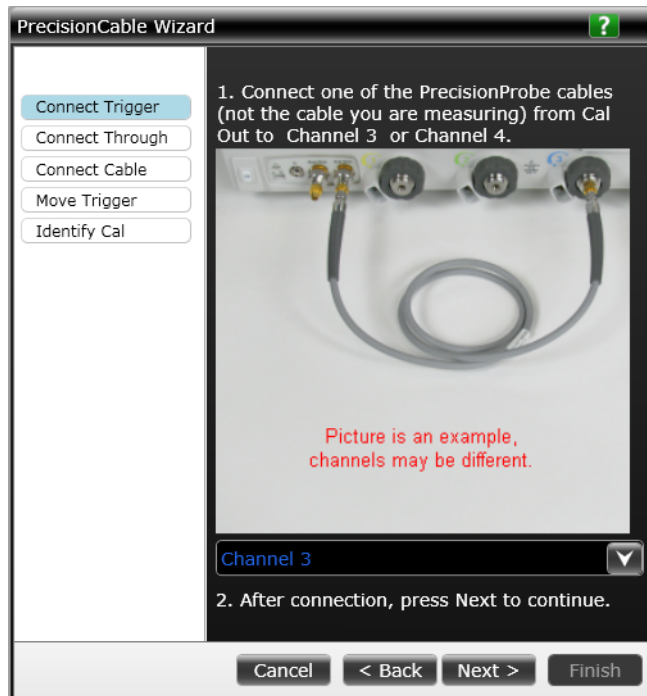

Figure 9 PrecisionCable Wizard – Connect Trigger
- 5 In the wizard's Connect Trigger screen (**Figure 9**), follow the instructions to connect a cable from Cal Out to channel 3. You will need to temporarily remove the N7010A adapter. Click **Next >** to advance to the Connect Through step.